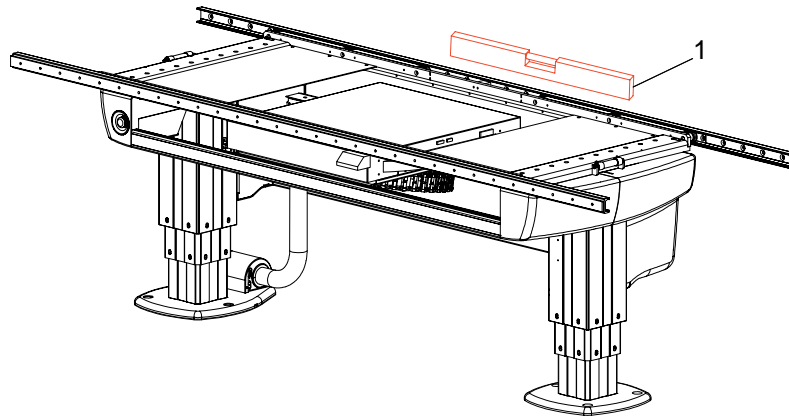

Fig. 5-45
4. Place a spirit level on the table top and check if the table top is horizontal ( $\pm 1$  mm), see Fig. 5-45 . Shim each column if necessary.